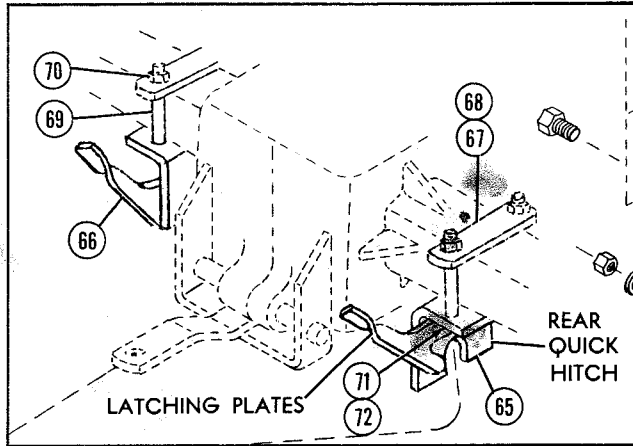

FIGURE 1
1. Assemble the Rear (Dozer Blade) Quick Hitch Assembly to tractor as shown in Figure 1, leaving bolts loose. Assemble Latching Plates to outside of hitch.